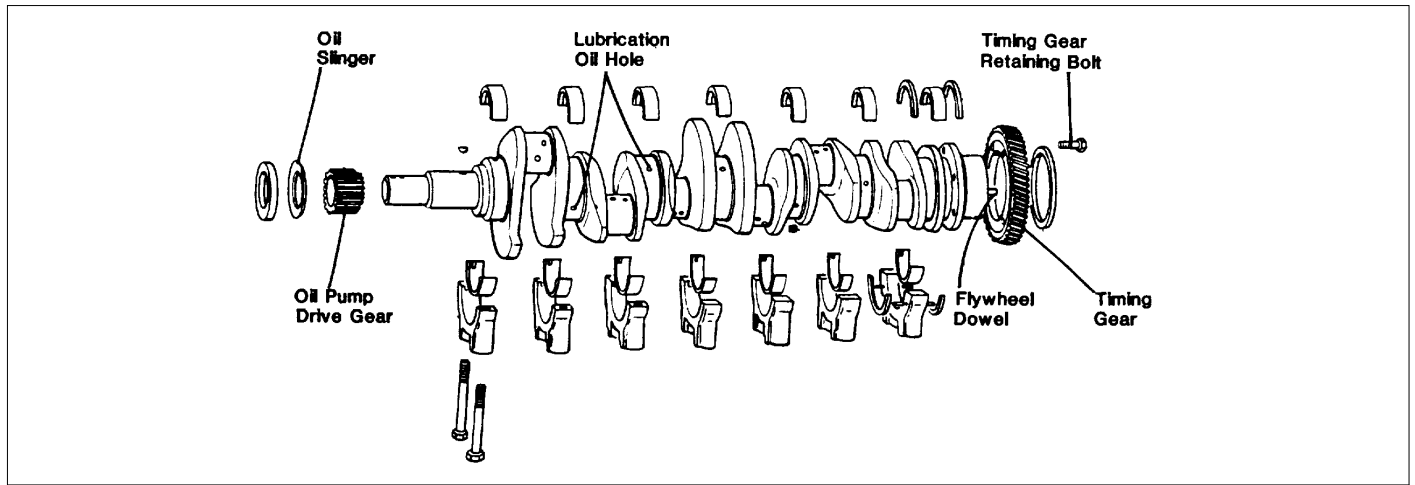

Fig. 2. Crankshaft, Timing Gear and Oil Pump Drive Gear Assembly
- (10) Remove the crankshaft cap or pulley.
- (11) Remove the vibration damper.
- (12) Remove the front engine support.
- (13) Remove the crankshaft front cover.
- (14) Remove the vibration damper inner cone or oil seal spacer.
- (15) Remove the cylinder head.
- (16) Remove the connecting rod bearing caps.
- (17) Remove the main bearing caps.
- (18) Remove the thrust washers from each side of the rear main bearing.
- (19) Remove the pistons, connecting rods and liners.
- (20) Remove the crankshaft, including the timing gear and oil pump drive gear (Fig. 2).
- (21) Refer to SM6-5-28.0 for removal of the crankshaft timing gear and SM6-5-46.0 for the procedure covering removal of the oil pump drive gear.